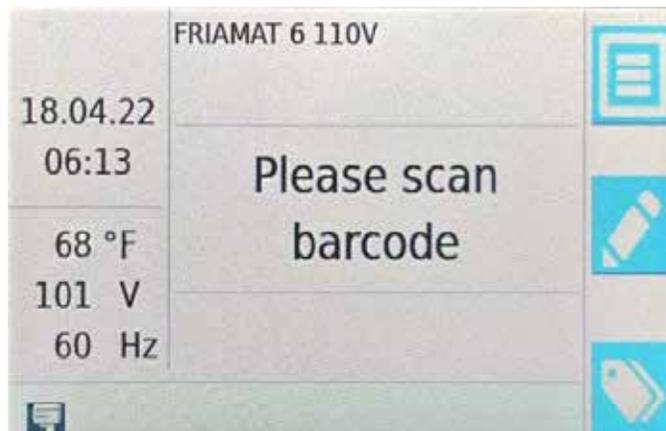

Figure 4. FRIAMAT 6 in Input Mode
- The FRIAMAT 6 is in input mode (Refer to Figure 4).